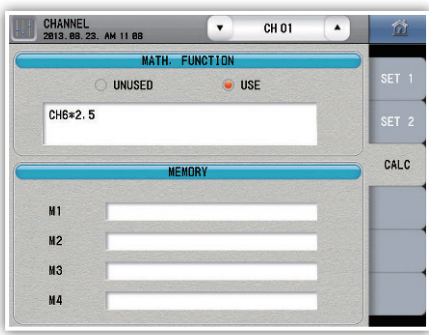

Fig. 42) Example of using the calculation formula 1
- (Fig. 42) is the example of the configuration as an example of using the calculation formula which displays the multiplication of the CH6 with 2,5 to the channel 1.